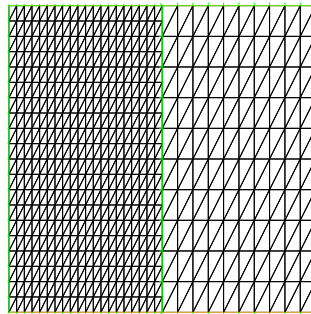

Figure 2: Example of non conforming grids
4. Another possible approach to reach higher accuracy is to use two different, non-conforming grids and to couple them through suitable Lagrange multipliers defined on their interfaces, as shown for example in Figure 2. Implement such a technique in **FreeFem++** and compare the results with the solution obtained with a fine conforming mesh, as you refine the grids.